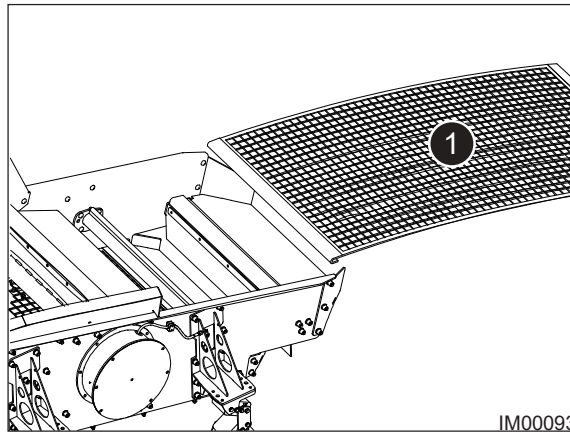

Fig: 11.32 - Mesh Removal
5. Slide the old mesh (Item 1, Fig: 11.32) out of the screen box.